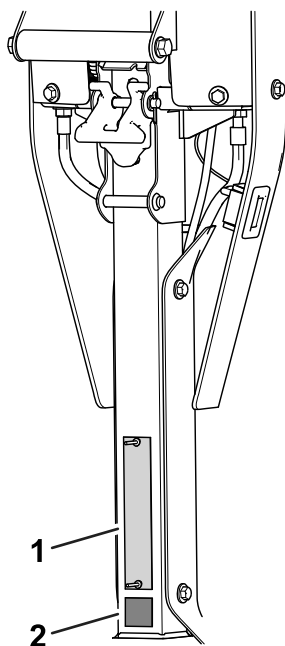

Figure 6
- Install the CE decal below the serial plate (Figure 6).